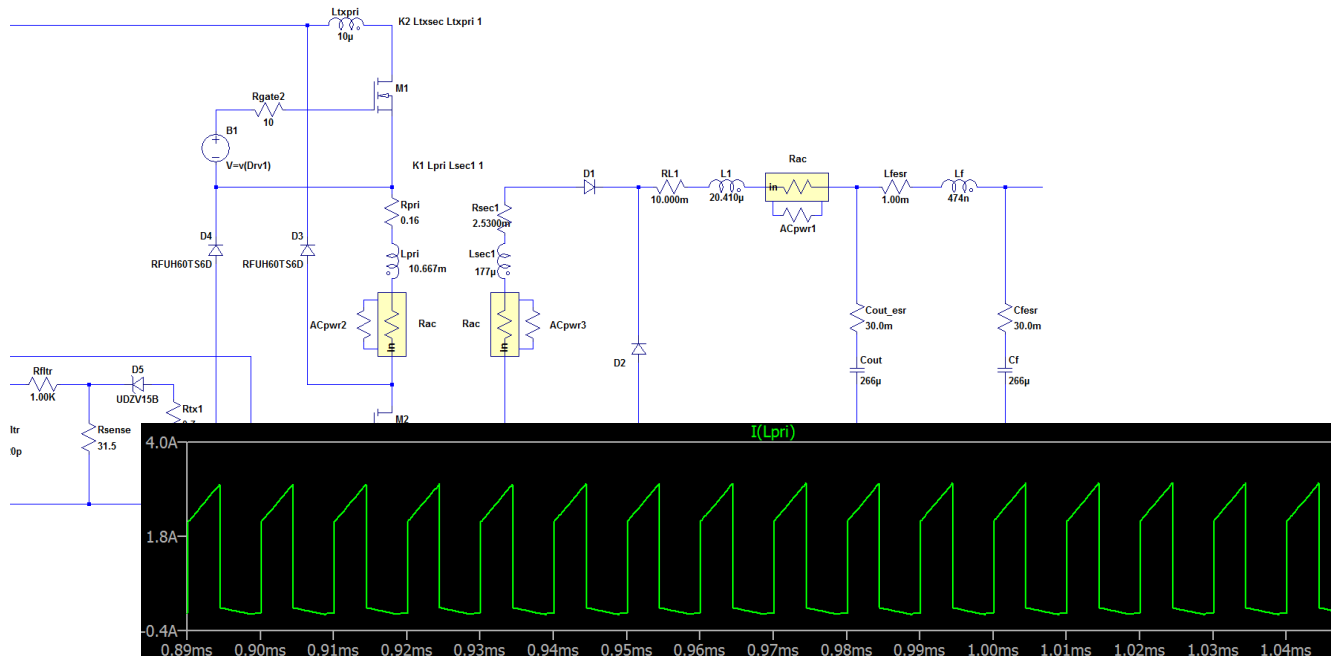

Fig. 6.7: Simulation of primary transformer current in LTspice.
Figure 6.7 shows the two-switch forward schematic in LTspice. The yellow resistive elements are the ac proximity models for each of the windings.
Step 1 is to simulate the converter to steady-state, and plot the primary switch current $I(Lpri)$ as shown below in Figure 6.7.